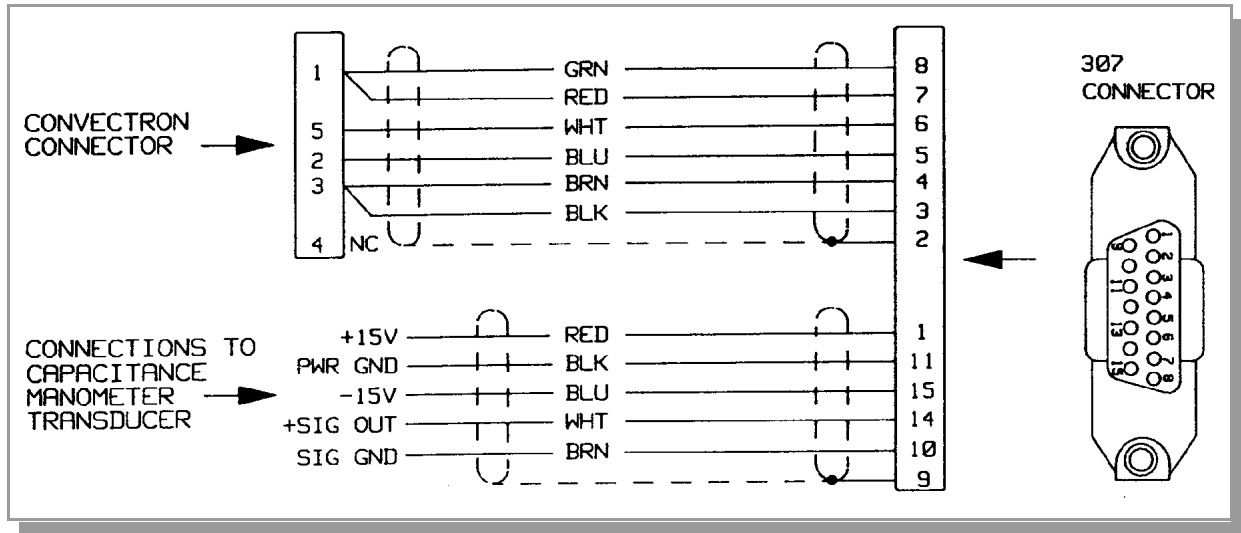

Figure 8-3 Capacitance Manometer Module, Cable.
The cable supplied by Helix Technology for this module connects to both a Convector gauge and a capacitance manometer. Since electrical connectors to capacitance manometers are not standardized, Helix Technology provides cables terminated with tinned wire leads. Figure 8-3 on page 79 shows the color-coded functions of the wires. Please consult the manual for your capacitance manometer transducer for information on electrical connection, and installation of the transducer in your vacuum system.
1. Be sure the transducer was zeroed properly on initial installation, see your transducer documentation. Connect the cable from the 307 VGC to the capacitance manometer transducer per Figure 8-3 on page 79.
3. Adjust the vacuum potentiometer (116) until the third display line shows a single "0". If the adjustment is turned too far, a minus sign will appear in the display. This proper calibration is achieved when only the "0" appears.